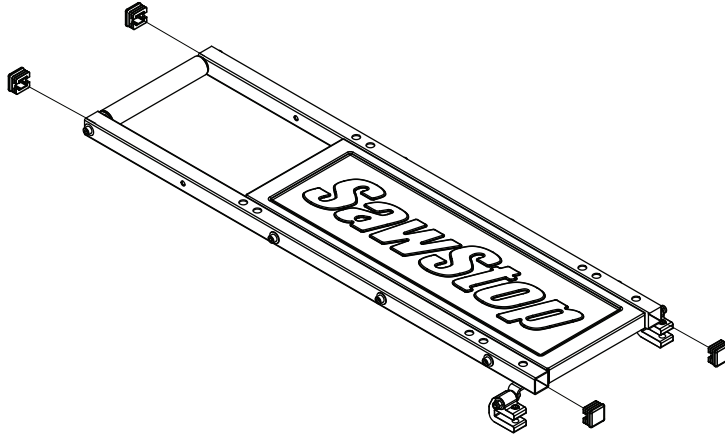

Fig. 11
- 8 Install a tube end cap into the open ends of both table tubes attached to the insert table (see Fig. 11 or the exploded view for reference).